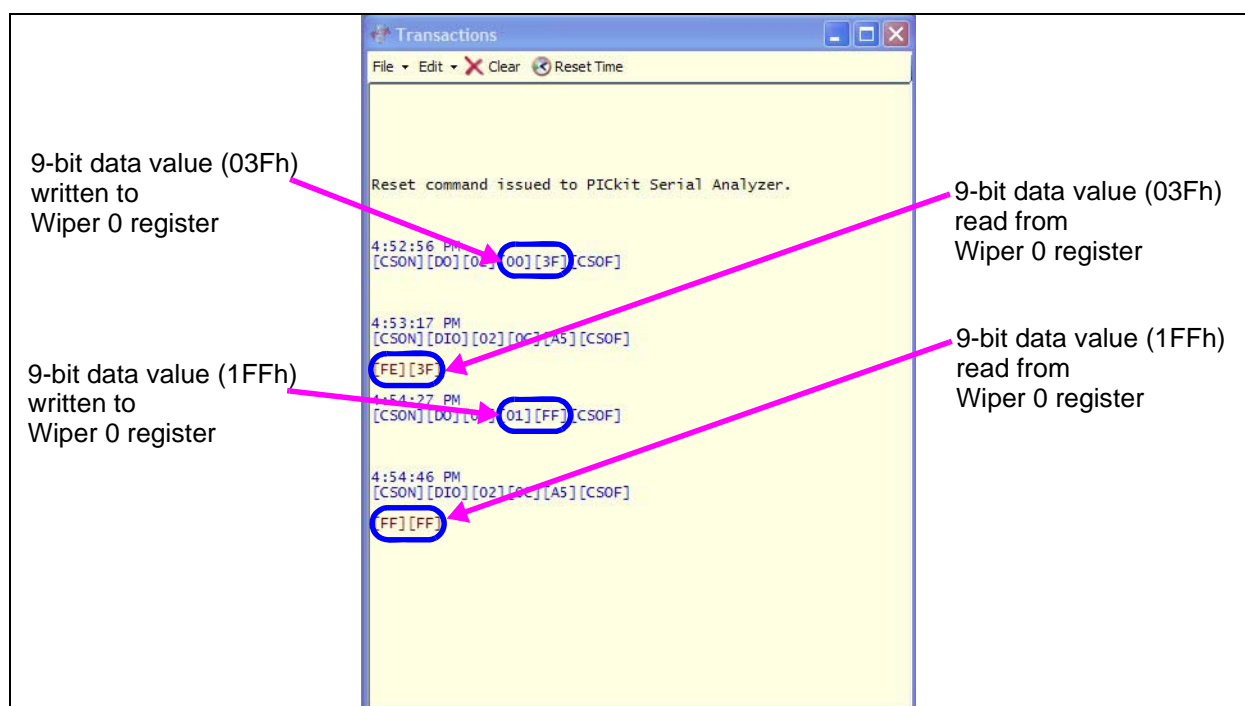

FIGURE 2-14: MCP4361 Transaction Window - Wiper 0 Writes and Reads.
10. Click on the **Execute Script** button. This executes the script shown in the script detail column, which will update the Wiper value to 3Fh. The Wiper voltage will now be $\sim V_{DD}/4$ ($\sim 1.25V$). The Transaction window (see Figure 2-14) will be updated to indicate the execution of the script.
12. Click on the **Execute Script** button. This executes the script shown in the script detail column. The Transaction window (see Figure 2-14) will be updated to indicate the execution of the script. The Data read is shown in the last line.
14. Click on the **Execute Script** button. This executes the script shown in the script detail column, which will update the Wiper value to 1FFh. The Wiper voltage will now be $\sim V_{DD}$ ($\sim 5V$). The Transaction window (see Figure 2-14) will be updated to indicate the execution of the script.
16. Click on the **Execute Script** button. This executes the script shown in the script detail column. The Transaction window (see Figure 2-14) will be updated to indicate the execution of the script. The Data read is shown in the last line.